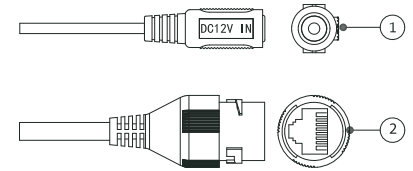

Figure 1-1
- You can refer to Figure 1-1 for the external cable ports.